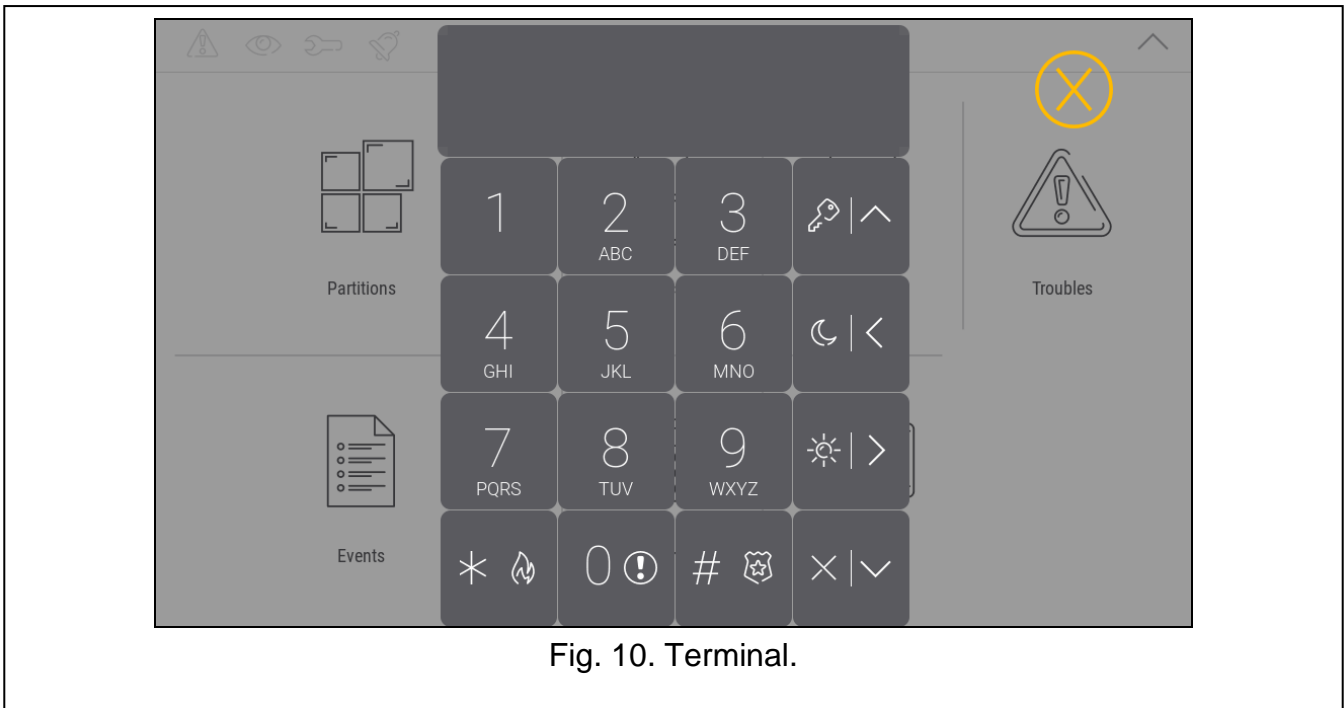

Fig. 10. Terminal.
4. Tap the “Terminal” function. The terminal will be displayed (Fig. 10).